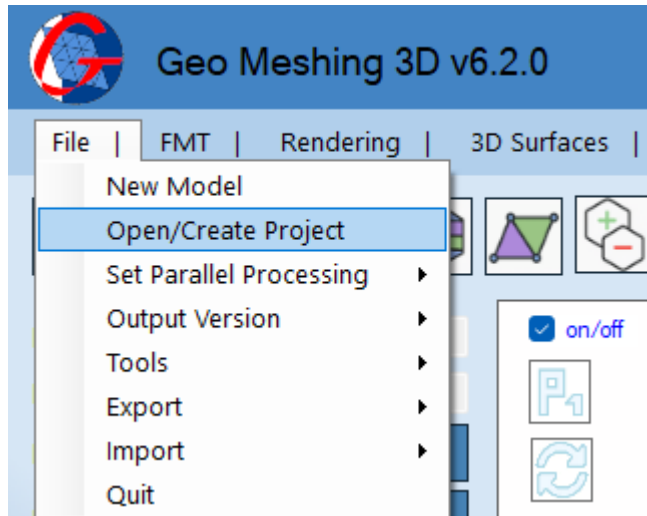

Figure 8: File Menu – Open/Create Project.
- **File Menu, Open/Create Project:** This option (shown in Figure 8) shows the dialog window of Figure 9, for opening a project file or setting up a new project file.